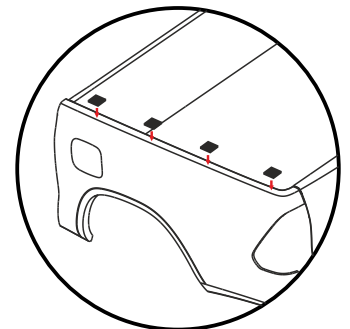

FIGURE 4.1
6. PLACE 3 RUBBER PADS IN LINE WITH CLAMPS ON THE BIN LINING, 4TH PAD TO BE PLACED AS A SPACER TOWARDS THE REAR OF THE BIN (SEE FIGURE 4.1), PROCEED TO SUFFICIENTLY TORQUE THE CLAMPS TO 9 FT-LB, 108 IN-LB OR 12.2 NM.